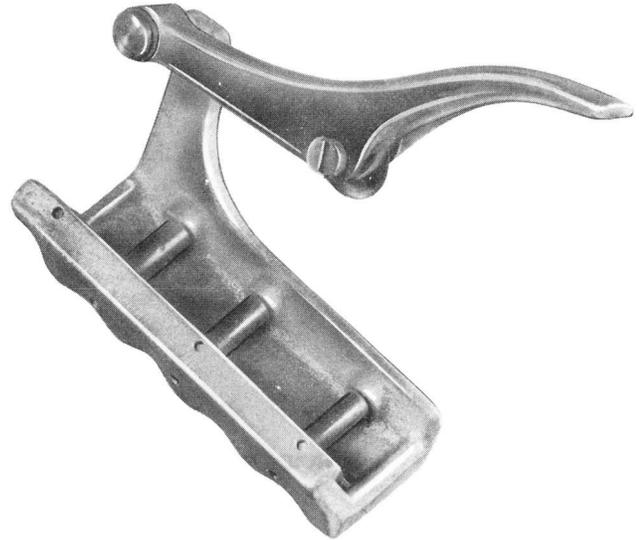

Fig. 1—B Innerduct/Cable Splitter
2.01 The B innerduct/cable splitter (Fig. 1) utilizes a thin disc cutter designed to cut innerduct. The handle of the innerduct/cable splitter is coated with red plastic to distinguish the B innerduct/cable splitter from the B cable sheath splitter.